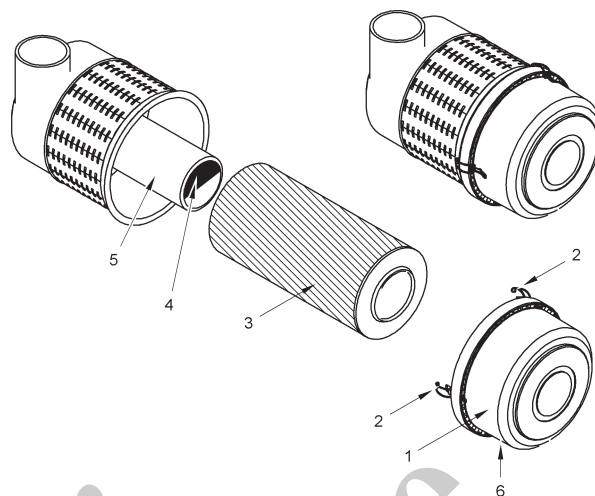

Fig. 12 Structure air filter
1	Open the locking clamps (2) in Fig. 12 of the air filter cover (1) and remove the air filter cover.